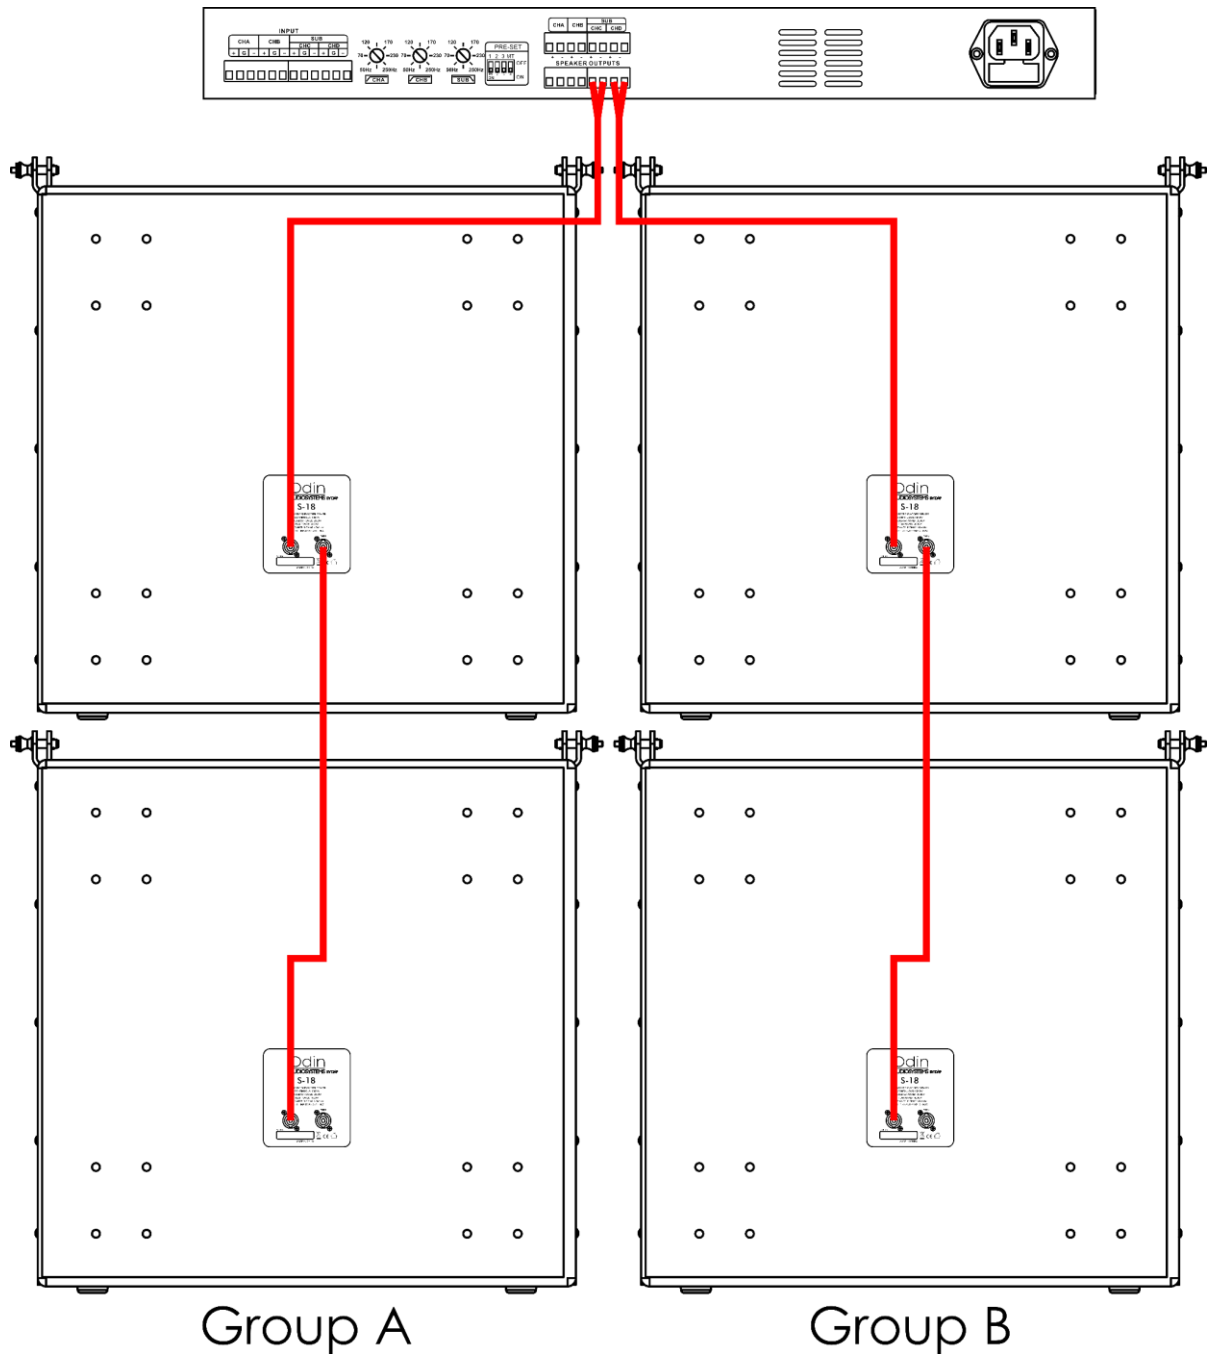

Fig. 10
- 01) Connect the **speaker connector IN (05)** of the first device to the output of the amplifier.
- 02) Connect the **speaker connector THRU (06)** of the first device to the **speaker connector IN (05)** of the second device.
- 03) Repeat step 2 to connect multiple devices as shown in Fig. 10.